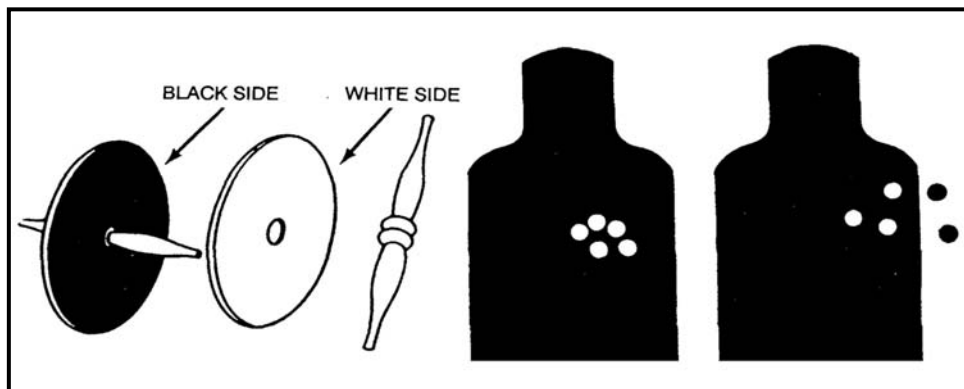

Figure 5-22. Target marking with spotters (markers).
c. **Marking the KD Range Targets.** When the initial shot group is fired, target spotters/markers (Figure 5-22, page 5-20) should be placed in each bullet hole, placing the white side on the silhouette and black side off the silhouette. This procedure ensures the firer can see where the rounds impacted. Instructors-trainers can observe the firer's performance and focus their attention on the soldiers having the greatest problems. Soldiers are motivated to fire better since their peers can observe their performance. On the second and subsequent shot groups, the target spotters/markers should be moved and placed in the holes of the new shot group. The old holes must be pasted, using black pasters on black and white pasters on white. Failure to paste all bullet holes makes it difficult to determine one shot group from another.